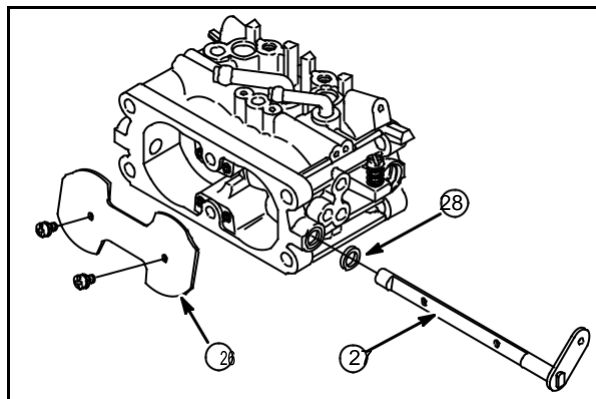

Fig. 67
Mark choke plate (26) before removing to ensure reinstallation in the original position, **Fig. 67.**